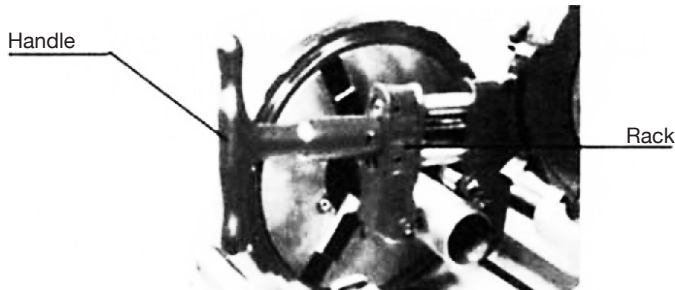

Fig. 8
- c Rotate the sledge handle to move the cutter kit to the cutting position (see Fig. 8).